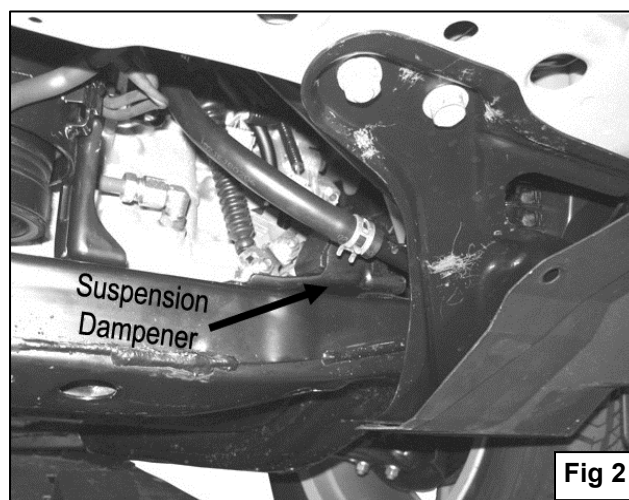

Fig 2
3. On top of the cross member bar there is a factory suspension dampener obstructing one of the mounting locations for the Support Brackets. **NOTE:** The suspension dampener is located on the driver side for gas models (**Figure 2**) and on the passenger side for hybrid models (**Figure 1**). Use a 10mm socket to remove the two factory bolts holding the suspension dampener from the top of cross member.